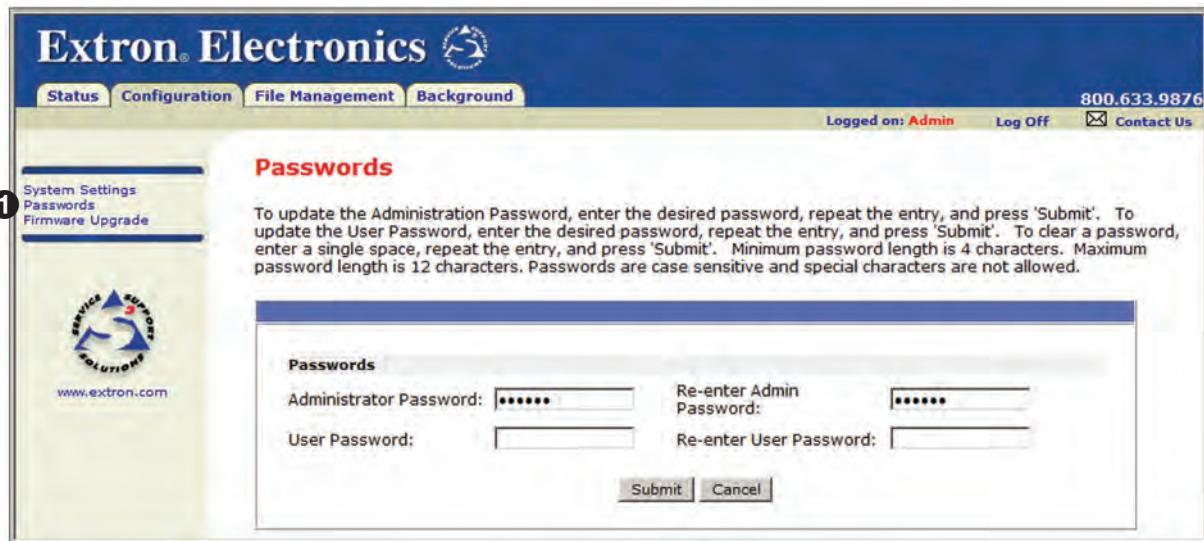

Figure 33. Passwords Page
The Passwords page lets you assign an administrator or user password to control access to the MGP Pro web pages. To access this page, click the **Configuration** tab, then the **Passwords** link on the left sidebar menu (see figure 33, ①).